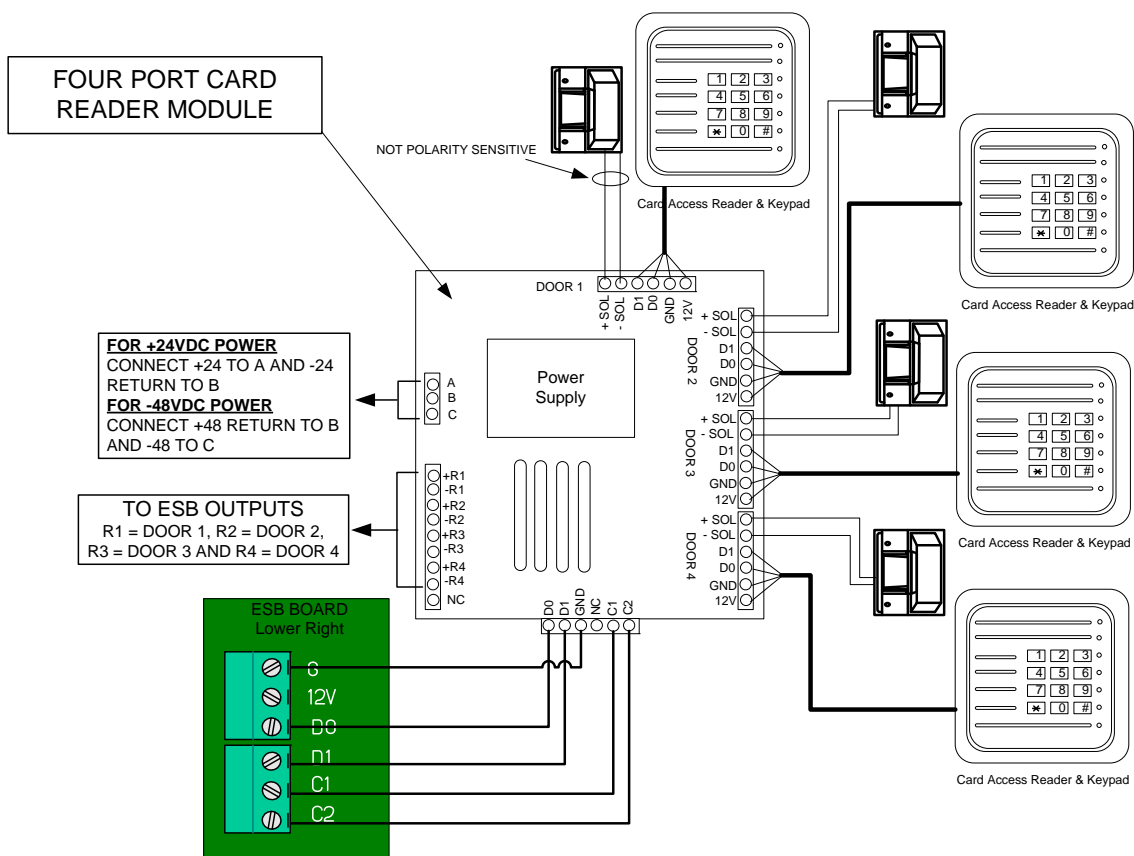

Figure 8: Connection Drawing for 4-Port Card Reader
Step 4: Connect D0, D1, GND and 12V from the 4-port module to the same points on each card reader (Figure 8).
Step 5: Using 4-conductor 20 AWG shielded cable, cut and insulate the drain wire at the reader and ground the drain wire at the 4-port module only (Figure 8).